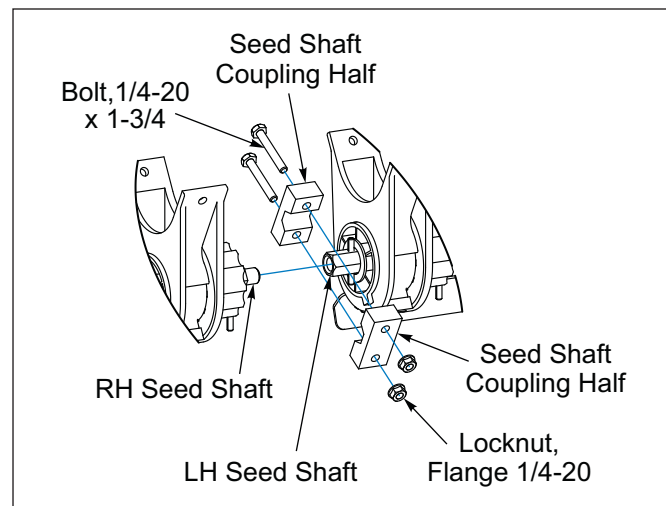

Figure 2-54: Front Box Seed Shaft Coupler
8. At the center of the Seeder where the RH and LH Hex Seed Shafts come together, remove Seed Shaft Coupling and unscrew RH Seed Shaft from LH Seed Shaft. **See Figure 2-54.**